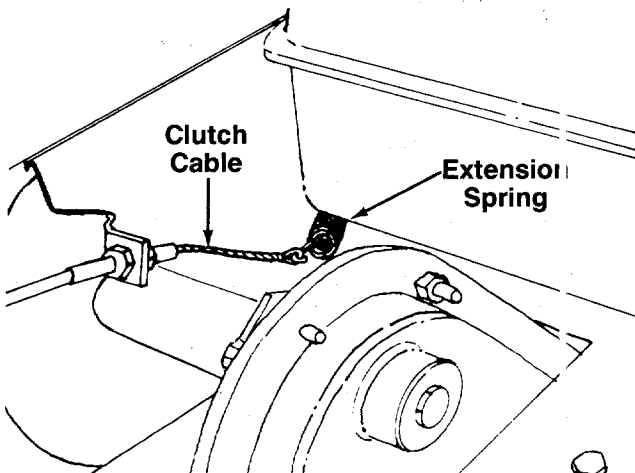

FIGURE 9.
1. Hook the end of clutch cable (already attached to tiller) over the extension spring as shown in figure 9.